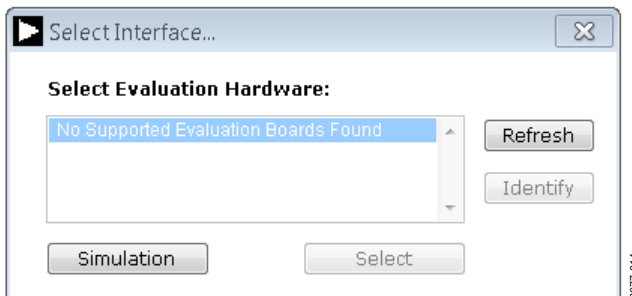

Figure 14. Evaluation Board Selection, No Board Connected
3. If the EVAL-AD7172-2SDZ evaluation system is not connected to the USB port via the SDP-B board when the software is launched, the software displays the dialog box shown in Figure 14. Connect the evaluation board to the USB port of the PC; wait a few seconds, click **Refresh**, and the option shown in Figure 13 appears.